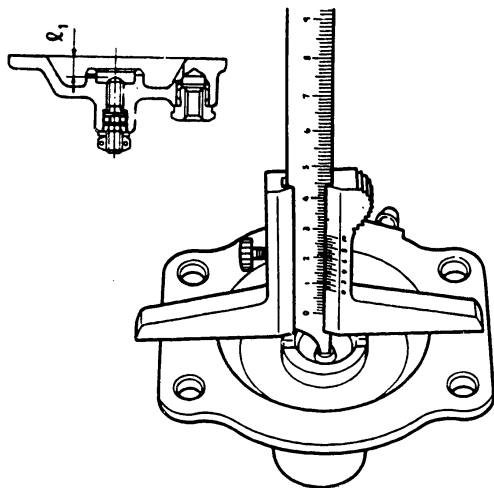

Fig. 35 Measuring the distance  $l_1$
- 6 After removing the cover (67/49) from the governor cover , measure the distance ( $l_1$ ) between the tip of the stopper bolt and the inside face of the cover. (Fig. 35)